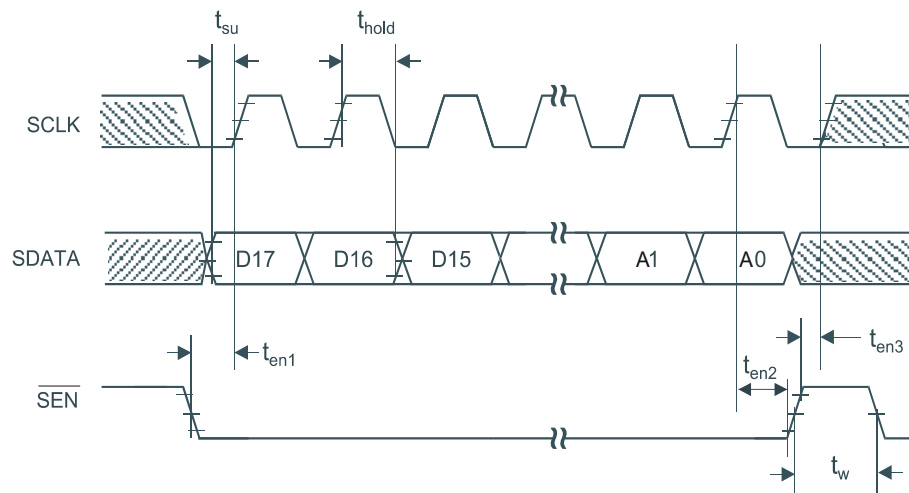
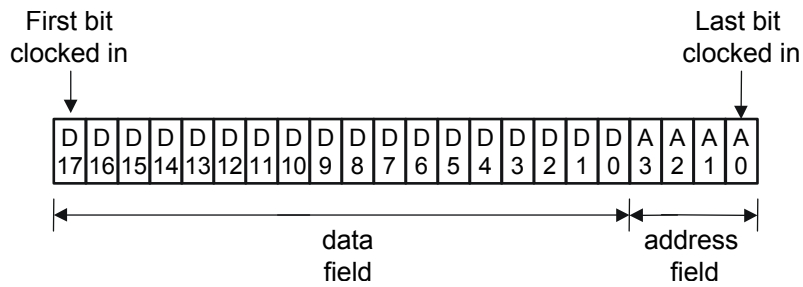

Figure 2. Serial Interface Timing Diagram
Figure 3. Serial Word Format
| SDATA Setup Time to SCLK \uparrow ² | t_{su} | Figure 2 | 5 | — | — | ns |
| SDATA Hold Time from SCLK \uparrow ² | t_{hold} | Figure 2 | 0 | — | — | ns |
| $\overline{SEN}\downarrow$ to SCLK \uparrow Delay Time ² | t_{en1} | Figure 2 | 10 | — | — | ns |
| SCLK \uparrow to $\overline{SEN}\uparrow$ Delay Time ² | t_{en2} | Figure 2 | 12 | — | — | ns |
| $\overline{SEN}\uparrow$ to SCLK \uparrow Delay Time ² | t_{en3} | Figure 2 | 12 | — | — | ns |
| \overline{SEN} Pulse Width | t_w | Figure 2 | 10 | — | — | ns |
2. Timing is not referenced to 50% level of the waveform. See Figure 2.
A timing diagram for the serial interface is shown in Figure 2 on page 7. Figure 3 on page 7 shows the format of the serial word.